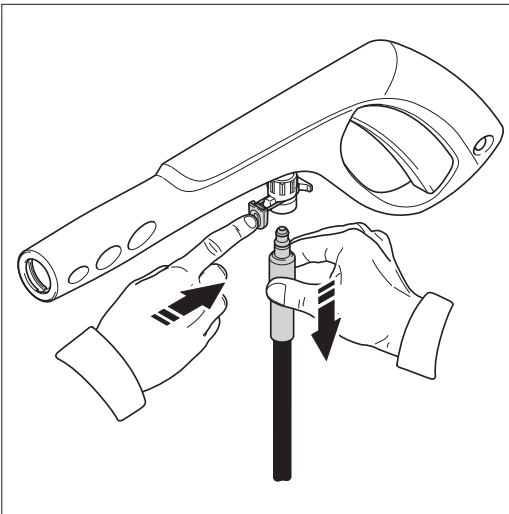

Fig. 7
- To release the hose from the spray gun, press the button on the underside of the gun toward the trigger guard. The hose will slide out from the connection (**Fig. 7**).